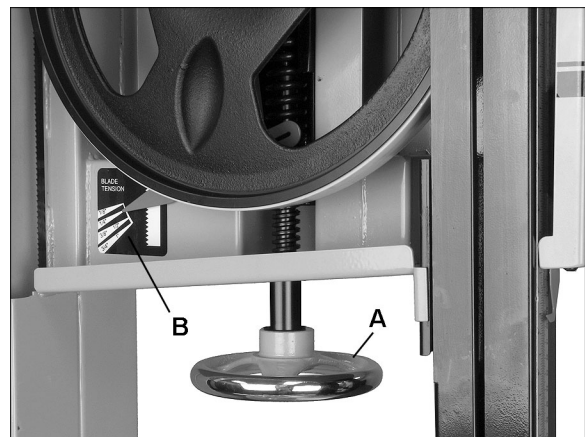

Figure 20
- Rotate tension handwheel (A, Figure 20) until scale pointer (B) indicates width of installed blade.